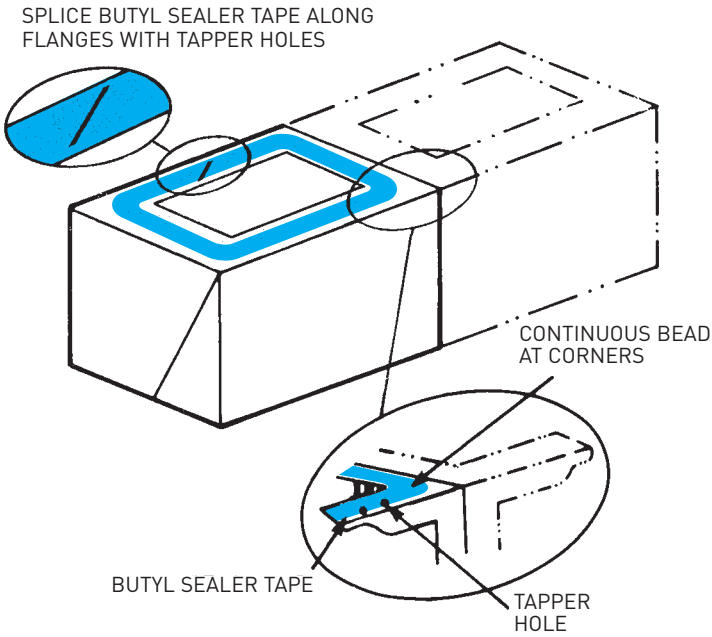

Figure 2
- Apply the 1" flat butyl sealer tape around the periphery of the top flange of the basin-fan section as shown below in Diagrams I, J or K (See Figure 2). This butyl sealer tape must be centered directly over the centerline of the taper holes and on the centerline of the end flanges where there are no taper holes.